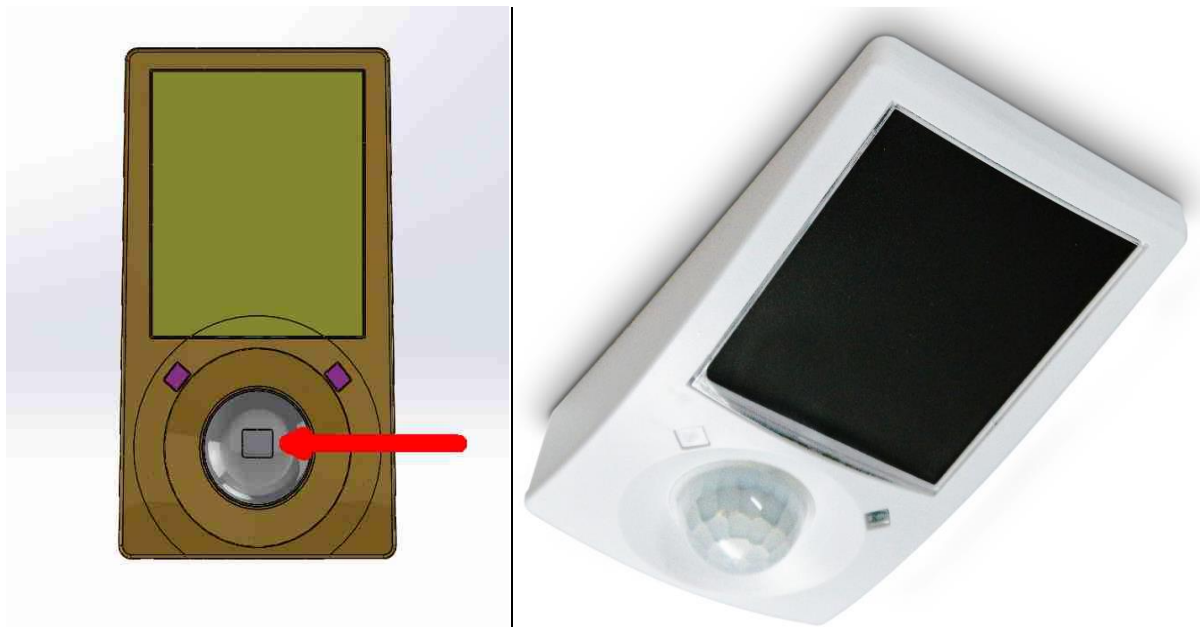

Fig. 2: Please assure that the lens cover is fixed into the position shown by the red arrow left!
- 5.) Gluing of the lens cover: e.g. using few punctual drops of superglue at the external periphery of the original round lens. Care must be taken, therewith not to damage the remaining central optical aperture. It is very important to respect the cover opening orientation vs. device as shown in Fig. 2!
Very important! Please strongly respect the cover opening relative orientation vs. EMDCx optical lens, as shown in Fig. 2 **red arrow** above!